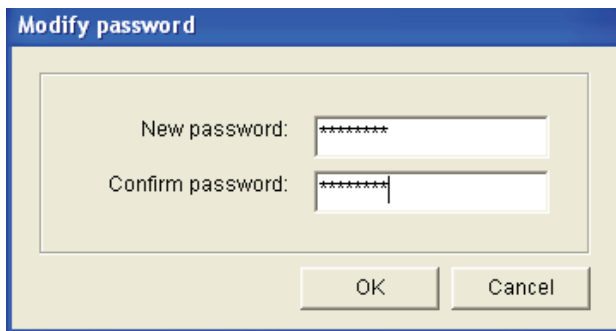

figure 8.22: Modify password window
- 2 Type in the current password, and then click OK. The default password is 12345678. The following window will appear (see figure 8.22).